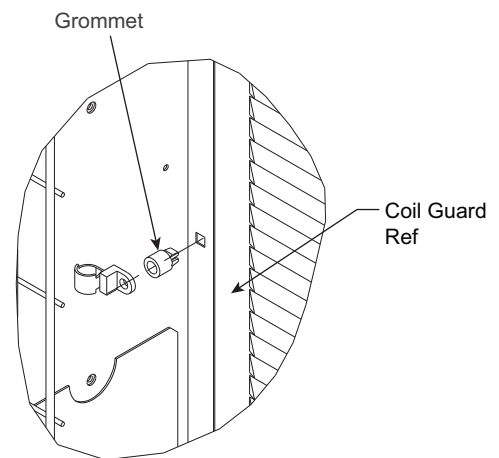

Fig. 4 — Grommets in Side Guards
5. Insert 2 plastic grommets in the square holes of the two side guards of the kit. (See Fig. 4.)